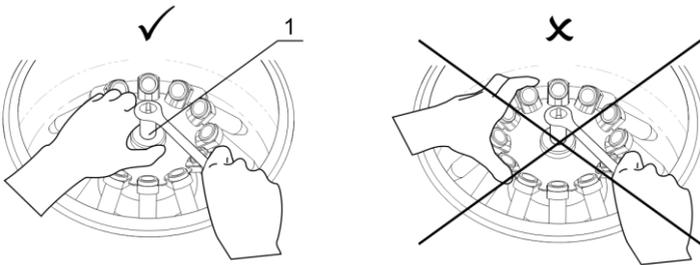

Figure 1. Rotor fixation
- Hold the rotor with one hand and, using the supplied wrench for rotor replacement (13 mm), turn the fixation nut (fig. 1/1) counter clockwise to release the rotor.
Caution! Do not hold the rotor by rings or adapters mounting when mounting and fixing it. Hold the rotor as shown in figure 1 (✓).
Warning! Check the rotor fixation every 10 days. Tighten the fixation nut if necessary, see figure 1.